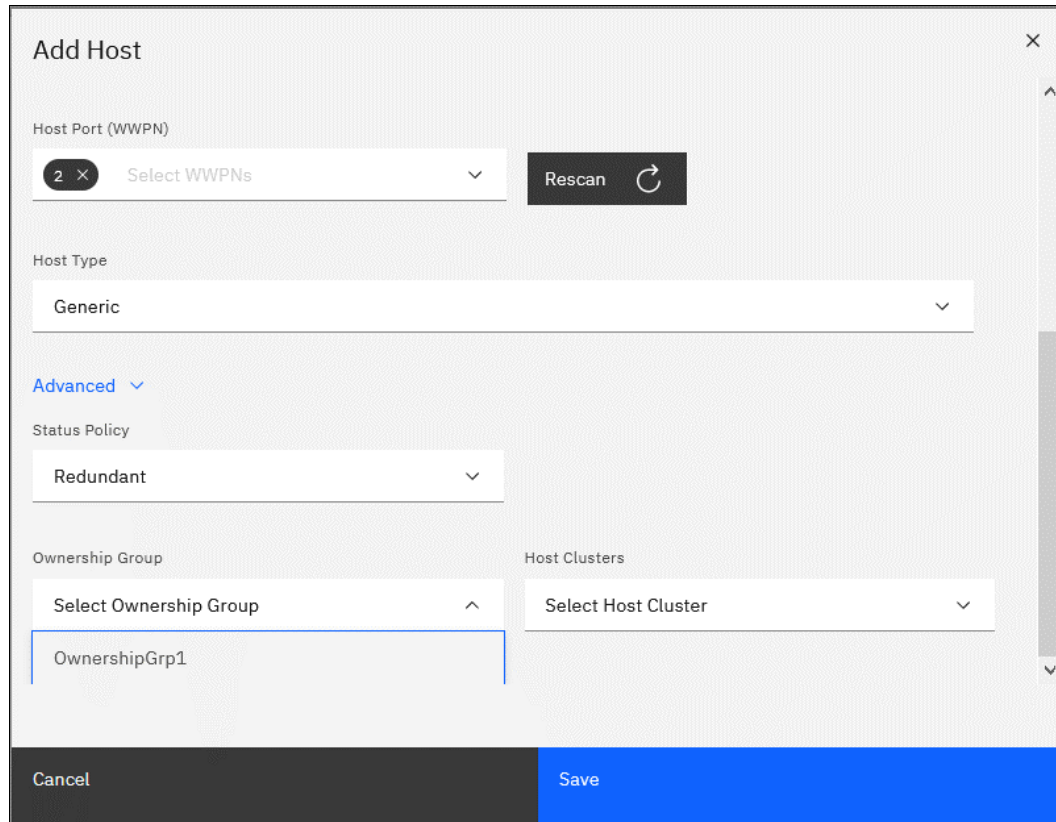

Figure 7-10 Adding a host to an ownership group
6. If you set up object-based access control (OBAC) as described in Chapter 11, "Ownership groups" on page 723, then select the **Advanced** section and choose the ownership group that you want the host to be a part of from the **Ownership Group** menu, as shown in Figure 7-10 on page 423.